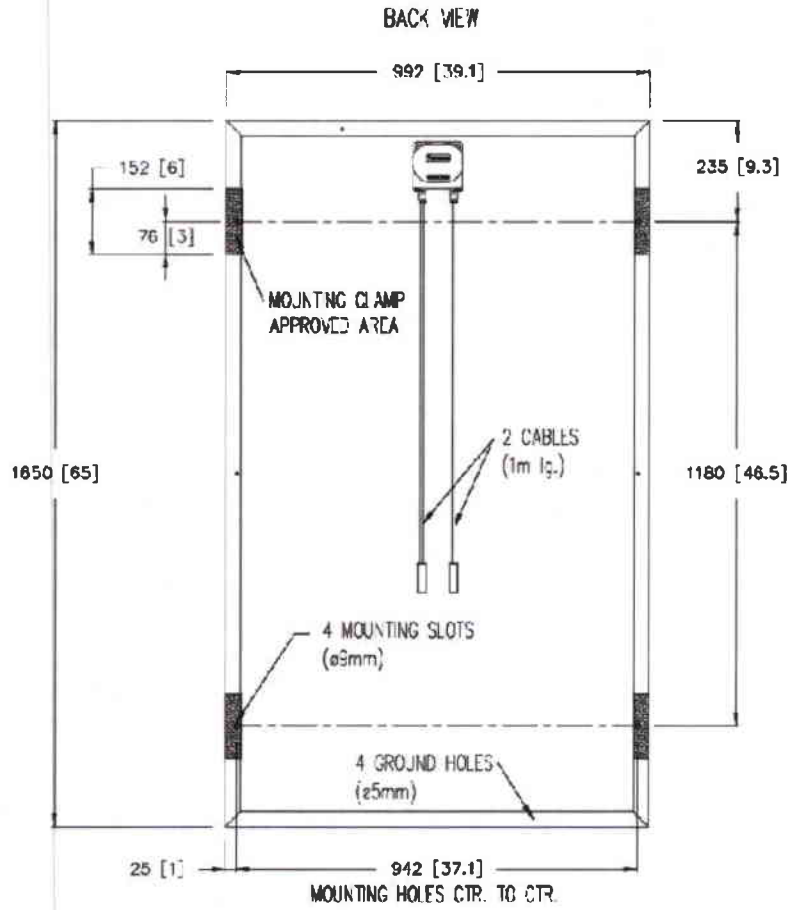
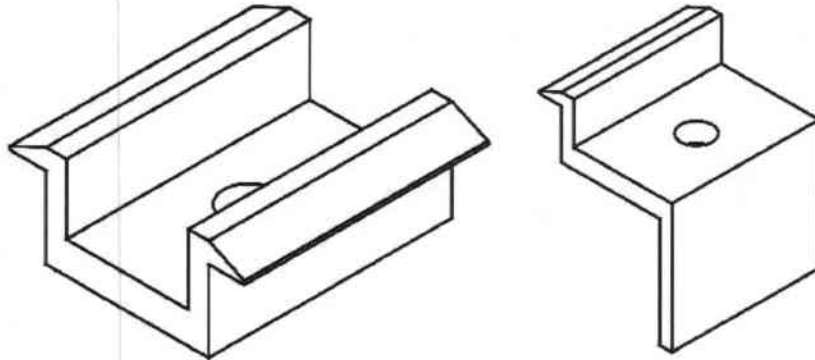

Figure 6 - Product Drawing
Figure 7 - Middle and End Clamps
- 2) **Mounting Clamps or Clips:** Mount the module with the clamps, 4 per module, on the side frame of the module. The side frames are the longer sides of the module. The centerline of the clips should be located on appropriate positions for your requirement from the end of the module as shown in Figure 6. Installer should ensure the clamps are of sufficient strength to allow for the maximum design pressure of the module. Clips and clamps are not provided with the module. We recommend you use aluminum (material) clamps, per Code as shown in Figure 7.